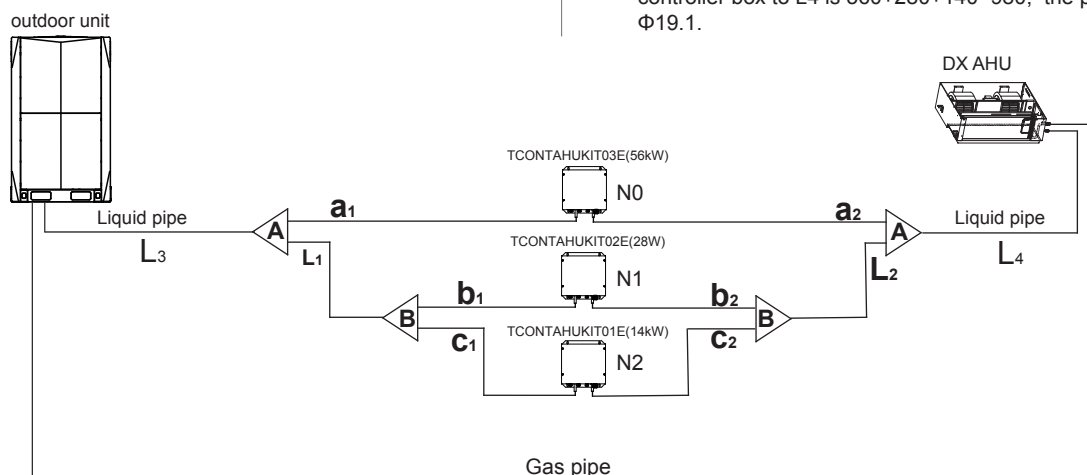

Figure 3-7
Pipe name	Code(refer to Figure 3-7)
e.x. 1: Refer to Figure 3-7, the capacity of downstream controller box to L4 is 560+280+140=980, the pipe is Φ19.1.